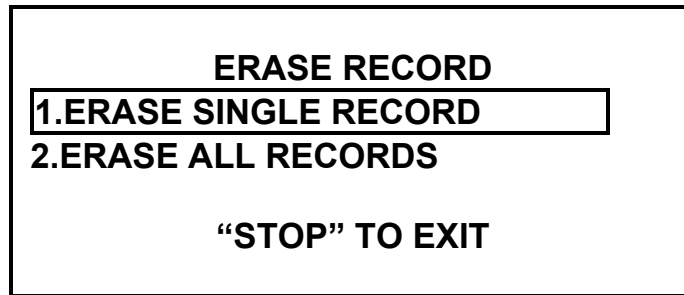

Figure 55.0 Erase Record Menu
- b. **Origin:** From the “Erase Record Menu” (Figure 55.0) select menu option 1.
- b. **Origin:** From the “Erase Record Menu” (Figure 55.0) select menu option 2.